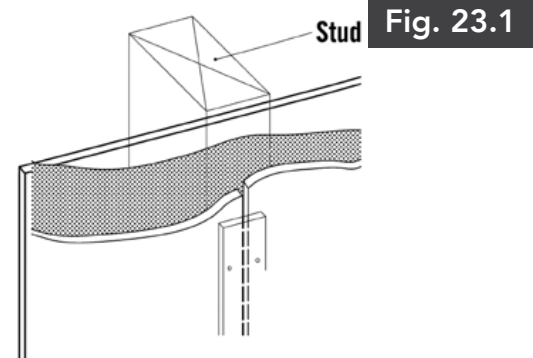

Fig. 23.1
- Cover the joint with a minimum 1-1/2" width batten strip. The batten strip may be fiber cement, wood, or PVC material. Caulk the vertical edge between the batten strip and NichiPanel. (Fig. 23.1)